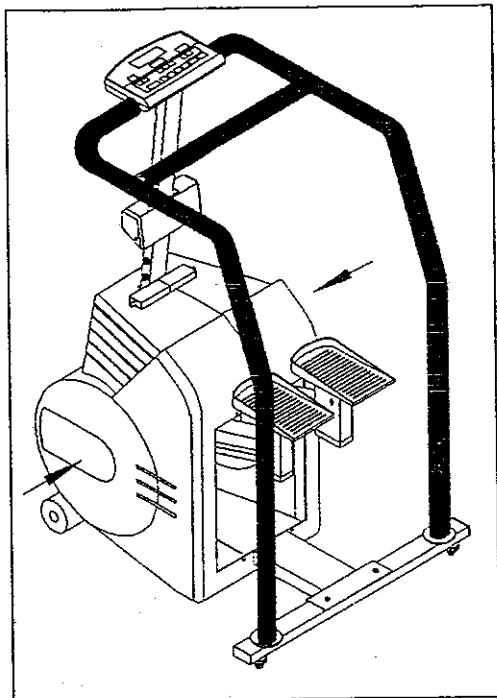

Fig. 12
3. Replace the main shroud and tighten with screws (see Fig. 12 & 13).